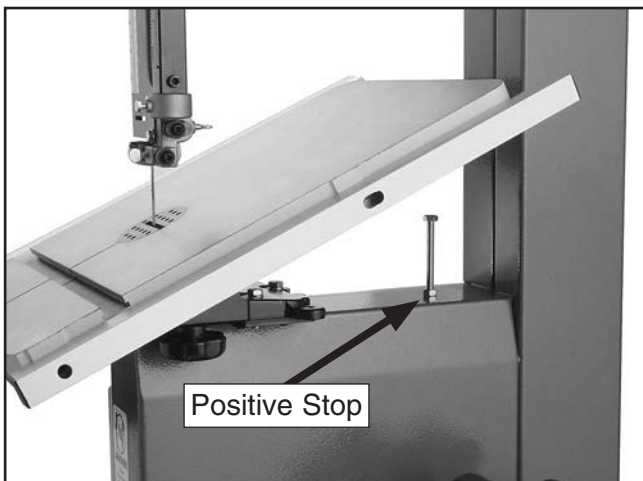

Figure 21. Installed positive stop bolt.
27. Thread the positive stop bolt into the threaded hole on bandsaw body as shown in **Figure 21**.